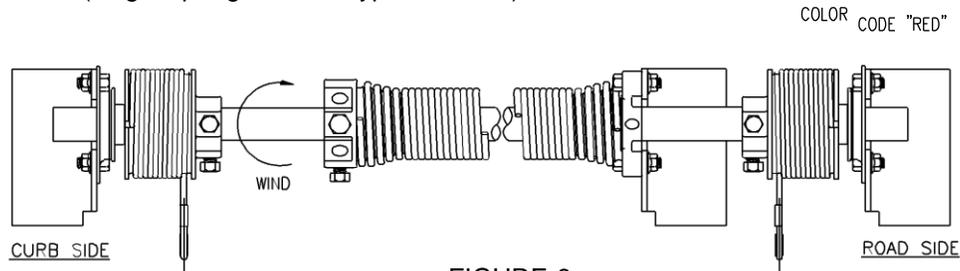

FIGURE 6
- 3 mounting brackets are required, "center", roadside\* and curbside\*. It is important that mounting surface is flush (in line) to all three locations. If necessary, install mounting plates of sufficient size to serve as a base for the balancer brackets. SEE FIGURE 6